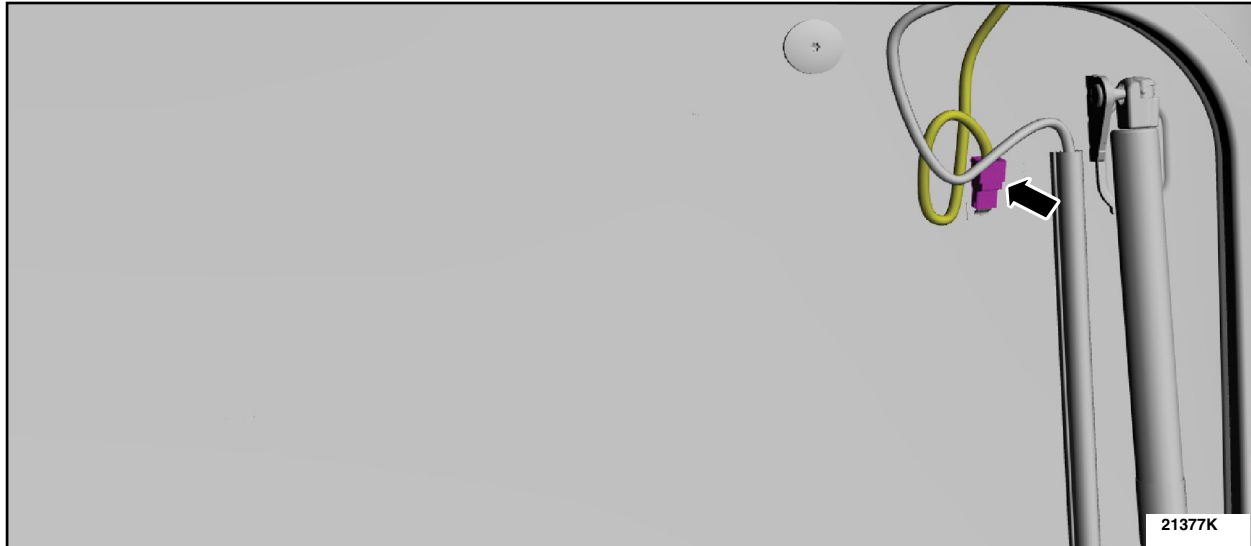

FIGURE 16
3. On both sides, disconnect the heated rear window element electrical connectors. See Figure 16.